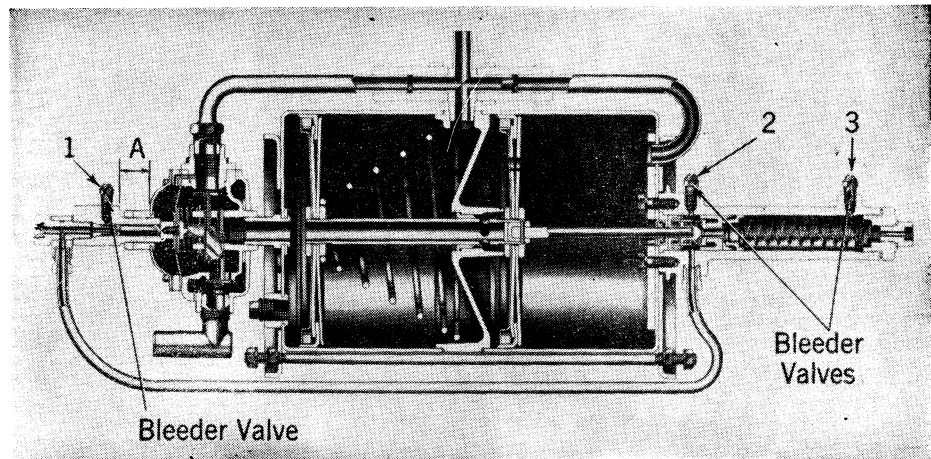

Fig. 26 Bleeder valves on First Series Hydrovac
The Hydrovac must be bled at all three bleeder screws, Fig. 26, before bleeding the vehicle wheel cylinders. Because the hydraulic line from the master cylinder can be connected to the Hydrovac at two different points, the order of bleeding the Hydrovac bleeder valves will vary.
1. If the master cylinder line connects to the control valve, bleed the Hydrovac in 1-2-3 order as shown in Fig. 26.